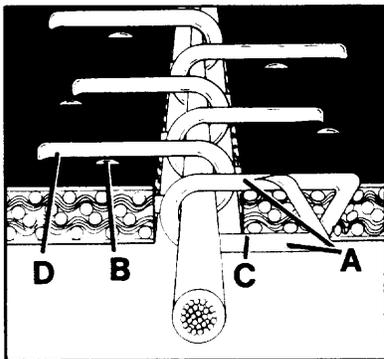

Figure 2-7a
2. Hook is properly sized and clinched when: (Fig. 2-7a)